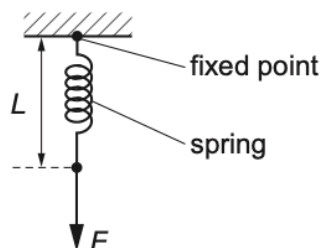

Fig. 4.1
- 19 A spring is suspended from a fixed point at one end and a vertical force is applied to the other end, as shown in Fig. 4.1.